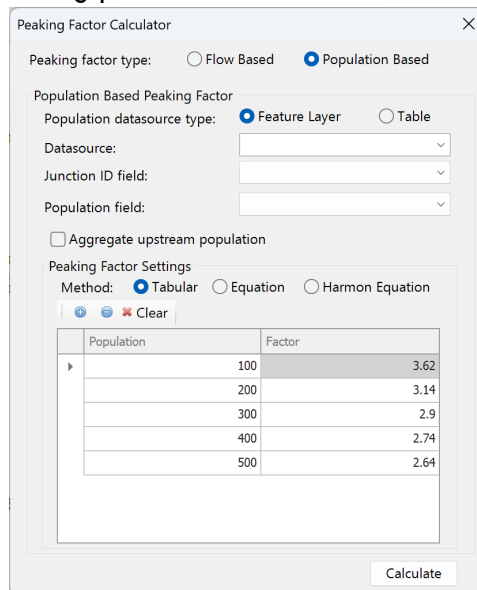

Figure 3: Population data source in the *Peaking Factor Calculator*.
2. For population based, the *Peaking Factor Calculator* requires a population dataset associated with junctions or nodes to calculate the subsequent peaking factors. This population dataset can be a feature class or external table with matching junction asset IDs. **Figure 3** shows how to import the population data from a feature layer based on matching junction asset IDs.